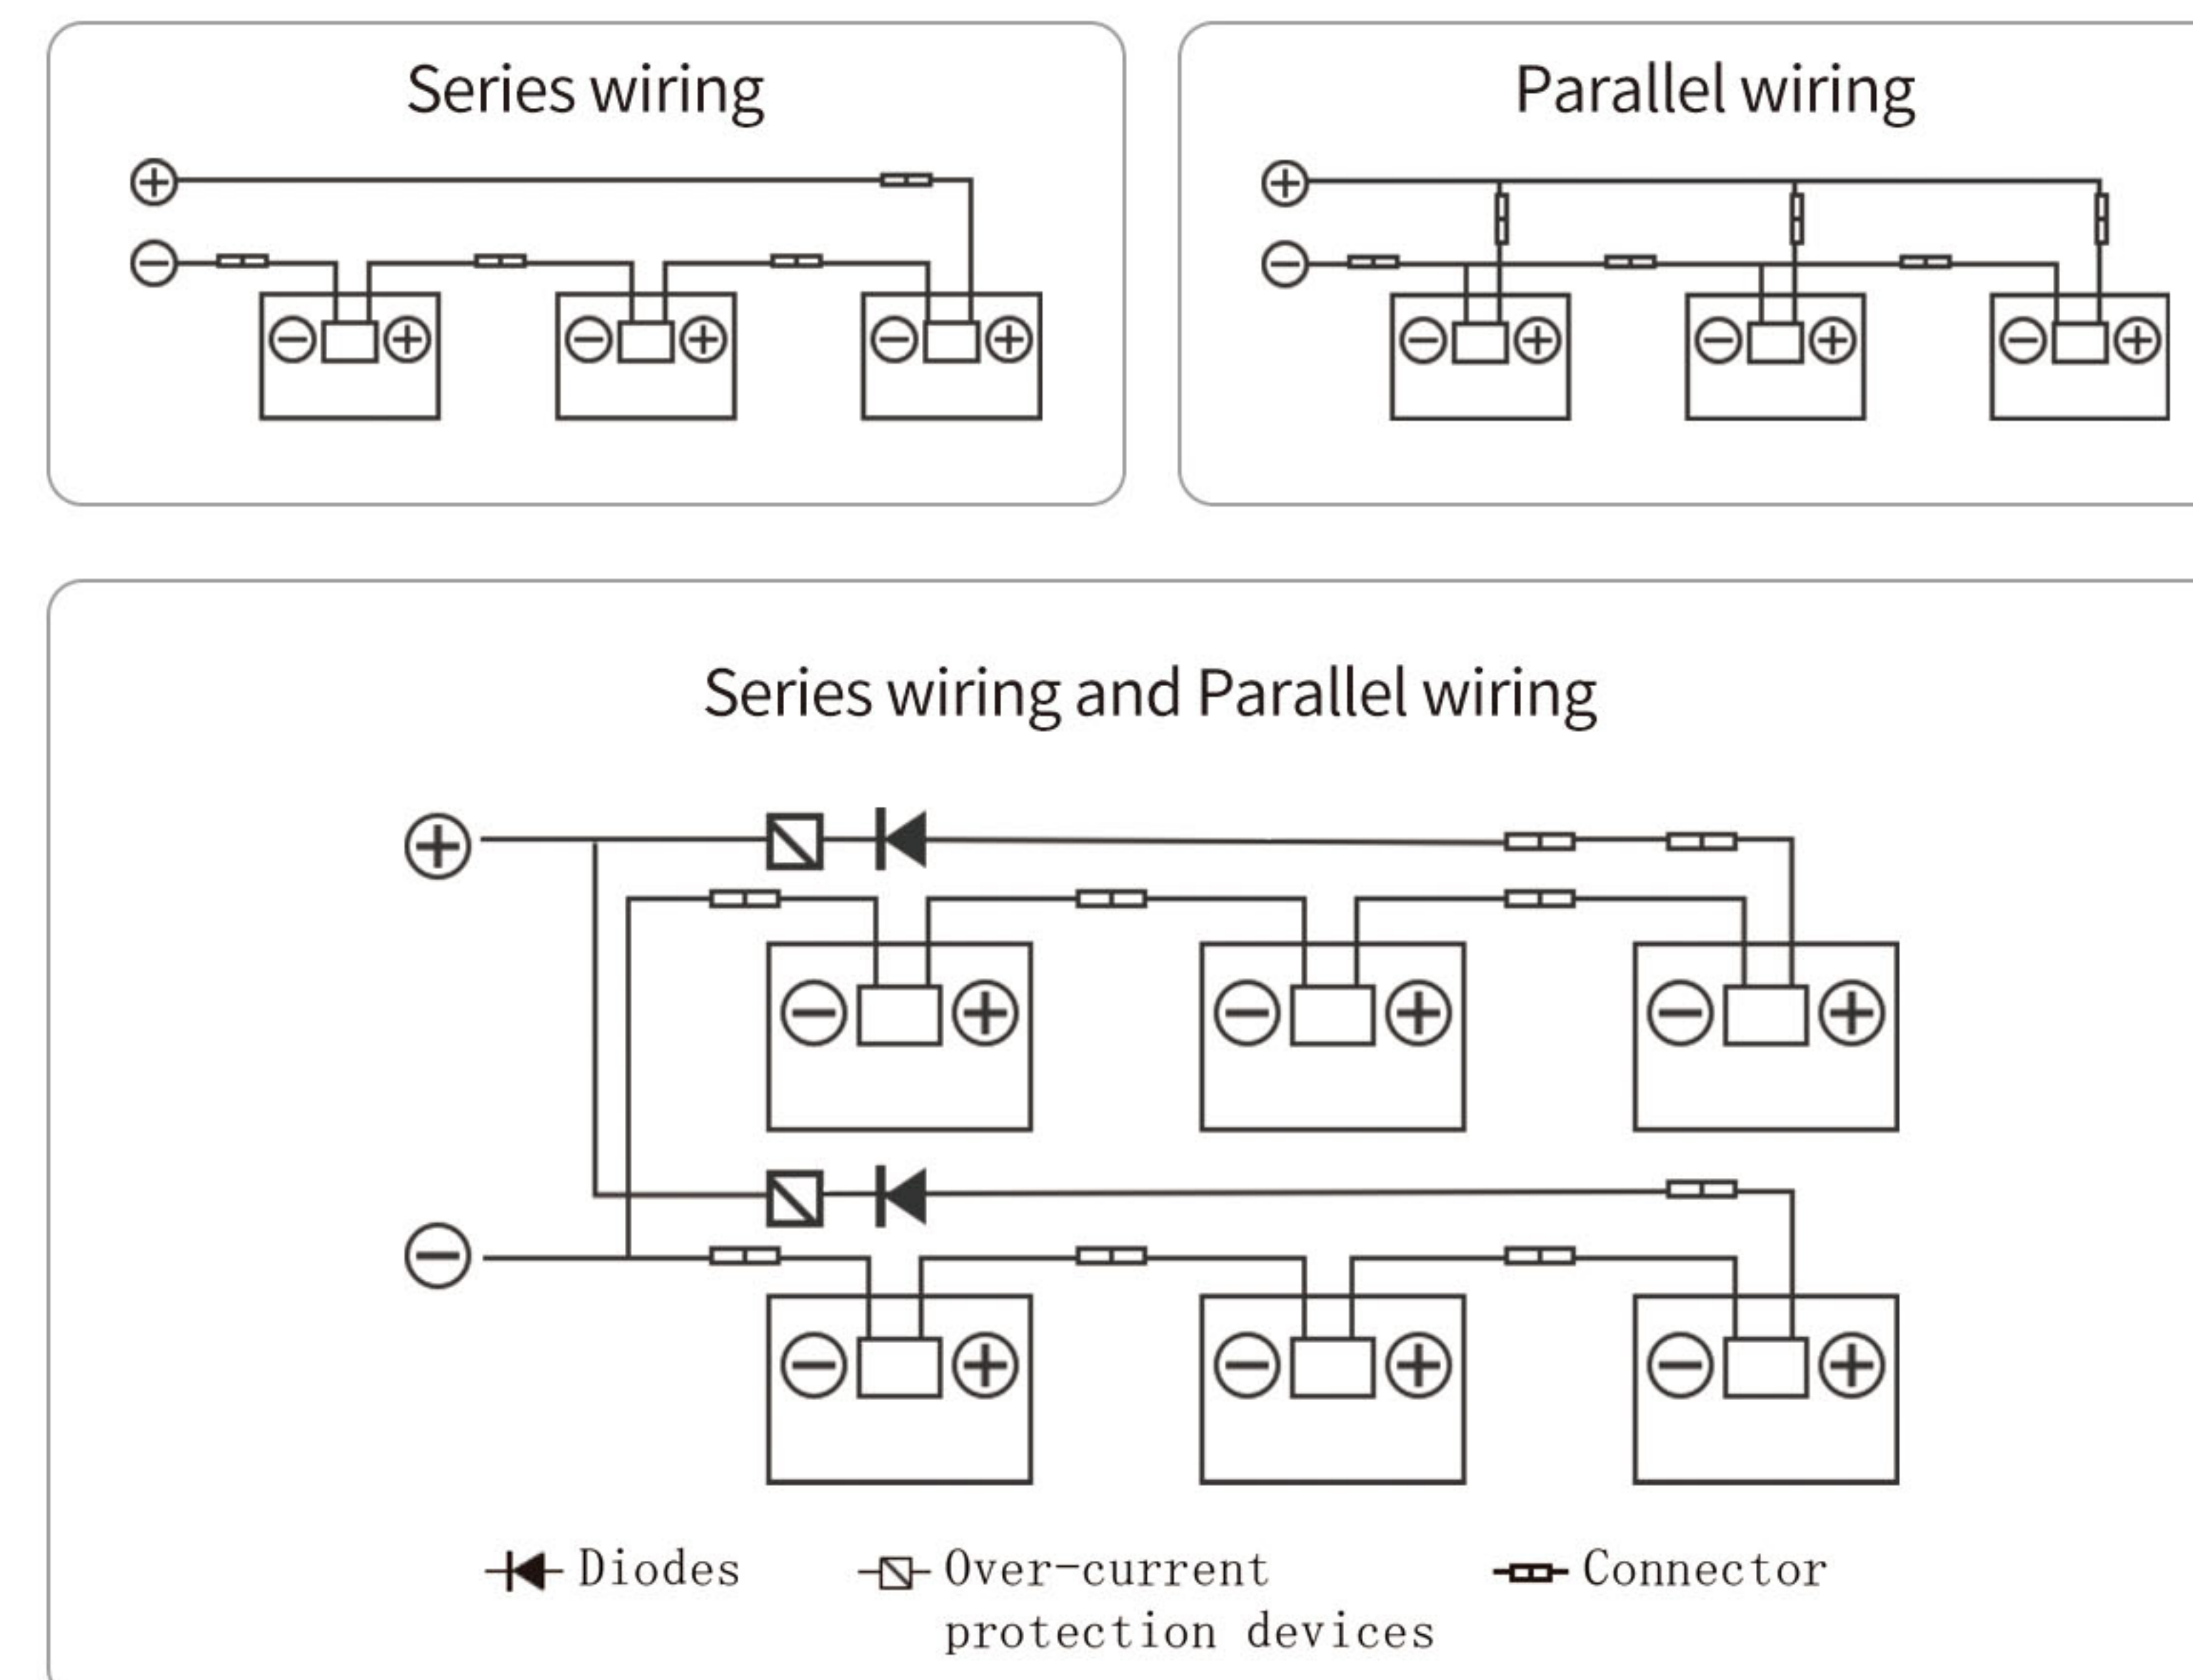

Figure 3
- 4.10 Voltages are additive when modules are connected directly in series, and modules currents are additive when modules are connected in parallel, as illustrated in Figure 3. Modules with different electrical characteristics must not be connected directly in series.